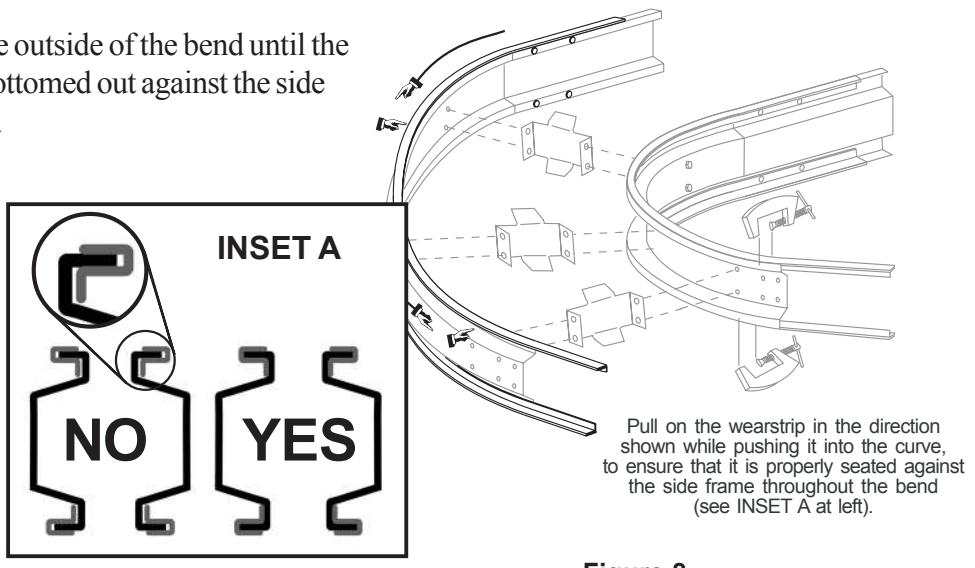

Figure 8
4. Push the wearstrips into the outside of the bend until the wearstrip is completely bottomed out against the side frame. Refer to *Figure 8*.